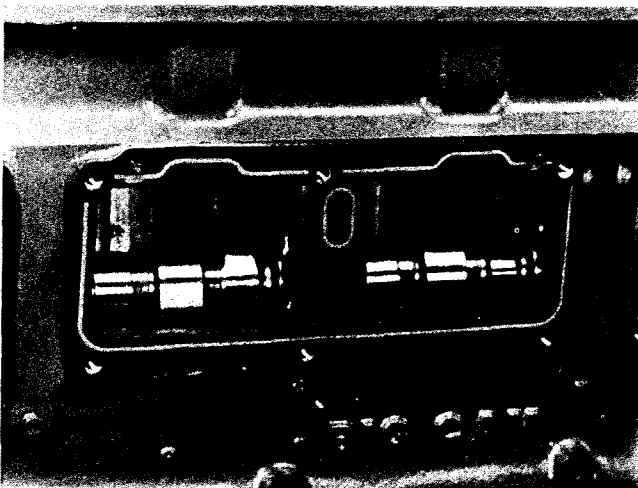

Fig. 14-23, (N114259). Installing cam follower gasket
1. Install cam follower gaskets. It may be necessary to add or remove gaskets to obtain correct injection timing. Install print-o-seal gasket with seal towards cam follower housing. Fig. 14-23.